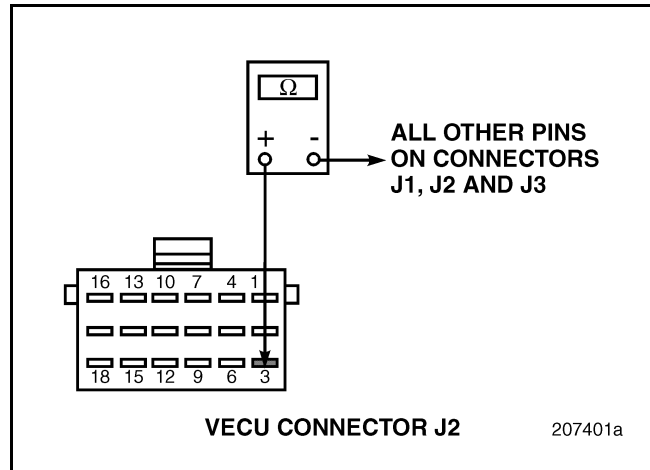

Figure 249
4. Check for continuity between Vehicle Electronic Control Unit (VECU) connector J2 pin 3 and all other pins in connectors J1, J2, and J3 (see Figure 249).